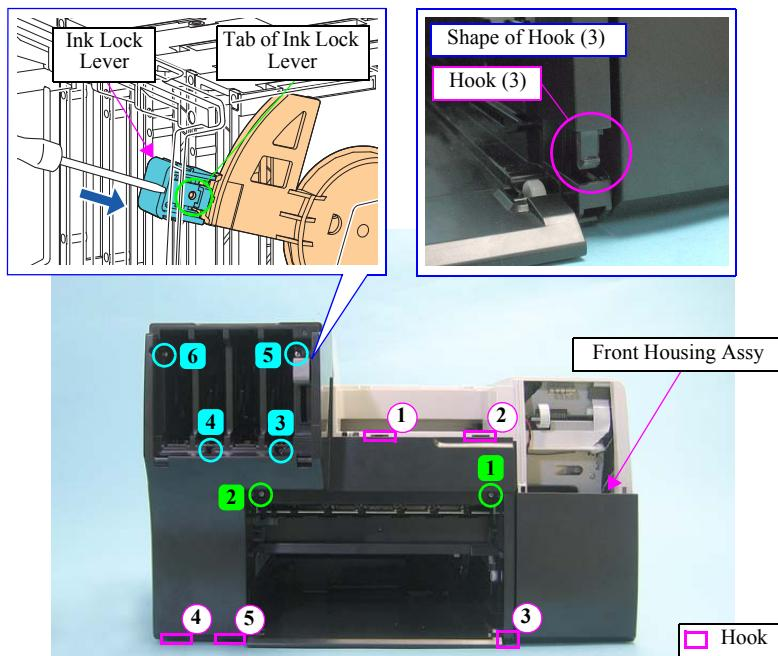

Figure 4-35. Removing the Front Housing Assy (1)
(The numbers in  shown in Figure.4-35 indicate the order of tightening the screws.)
- When installing the Front Housing Assy, properly engage its hooks shown in Figure.4-35 (engage three hooks on its bottom with the Lower Housing, and engage the other top two hooks with the Upper Housing.)